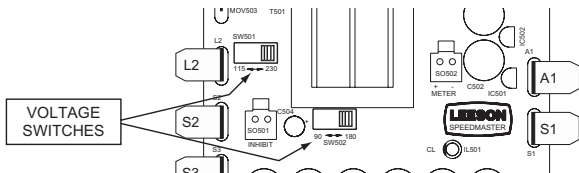

Figure 14. Voltage Switches
- Set voltage switch SW501 to either 115 or 230 to match the AC line voltage. Set voltage switch SW502 to either 90 or 180 to match the maximum armature voltage (see Figure 14).